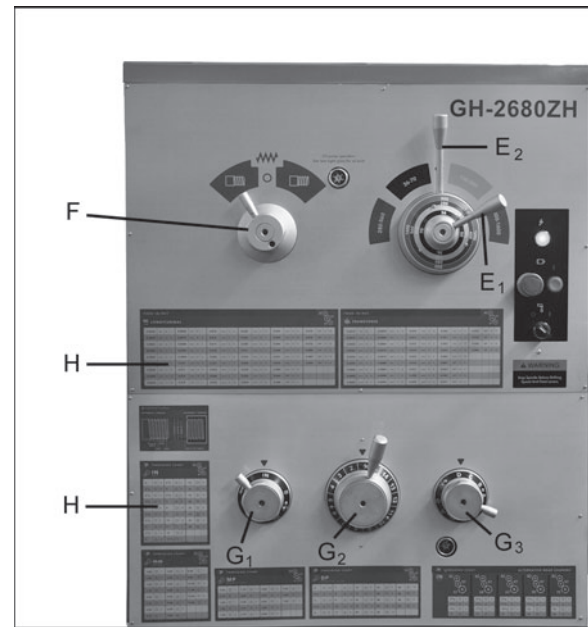

Figure 31
Twelve speeds are available by placing the first speed lever (E₁, Figure 31) in one of four positions, and placing second lever (E₂) in a position that matches the color for the range you desire. These selections are identified on the lever hub, as well as in Table 6, section 16.3.
1. Refer to the *Feed and Thread Chart* on the front of the headstock (H, Figure 31). The chart is also shown in section 16.10 of this manual.
3. Move levers (G₁,G₂,G₃, Figure 31) to the appropriate position according to the Feed and Thread Chart.
1. Move **thread selection lever** (F, Figure 31) to desired direction, for right-hand or left-hand threads. *NOTE: The overrunning clutch in the apron will prevent the tool post from feeding for left-hand threads. It will only feed when right-hand threads are being cut.*
2. Set **speed levers** (E₁, E₂, Figure 31) to desired speed. Use the lowest speed possible when threading.
3. Select desired thread using **thread pitch levers** (G₁, G₂, G₃, Figure 31) in conjunction with the charts on the headstock. These charts are also included in section 16.10 of this manual.
NOTE: When a special thread must be cut that is not found on the chart, move thread change control lever (G₁, Figure 31) to  position, and lever (G₃) to IV, then reset the change gears.